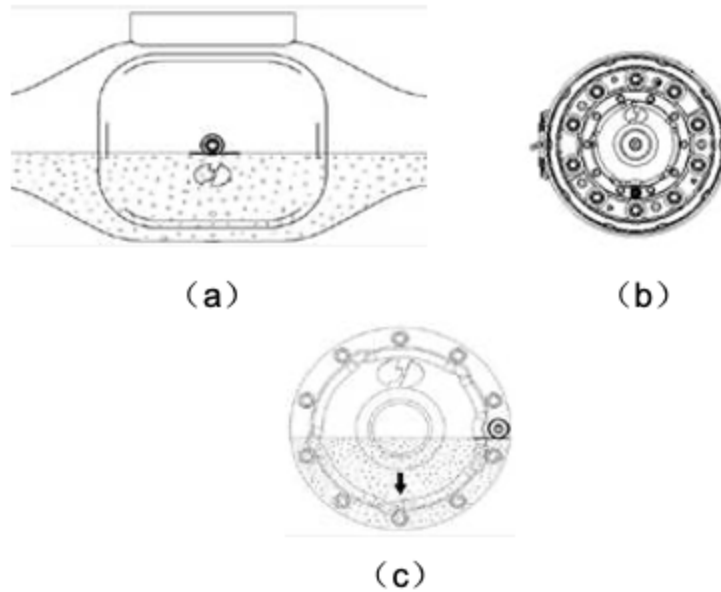

Figure 8.6.6-2 oil level diagram of axle
2. Remove oil plug (4), catch the waste oil with a container, and open the lubricating oil filling port (3) of the bridge package at the same time to make the waste liquid flow faster;
3. Blow clean compressed air into the oil chamber from port (3) to blow out the residual oil. Clean up the residual oil in port (3) and port (4), replace the oil plug in port (4), to a torque of  $80 \pm 10\text{nm}$ ;
4. Fill lubricating oil with funnel. The model of lubricating oil is Mobil 80w-90 GL-5. Please do not add different types of lubricating oil, fill it to the following figure 8.6.6-2-a,
5. Start the vehicle, place the hub oil outlet 1 at 6 clock (Fig. 8.6.6-2-b), turn off the engine, and then remove the plug to drain the oil; use a pipe or funnel to drain the waste oil into the container;
6. Start the vehicle, place the hub oil outlet 1 in the 3 clock direction (Fig. 8.6.6-2-c), turn off the engine, and then use a clean funnel to fill in new lubricating oil until it is as shown in Fig. 8.6.6-2-c.